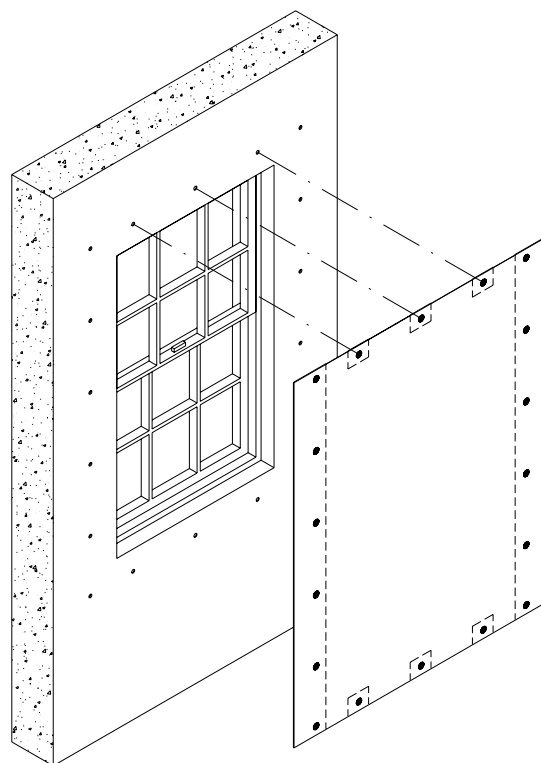

Figure 5
- Use the new grommet holes as templates to mark the fastener positions on the wall of the house (see Figure 5).